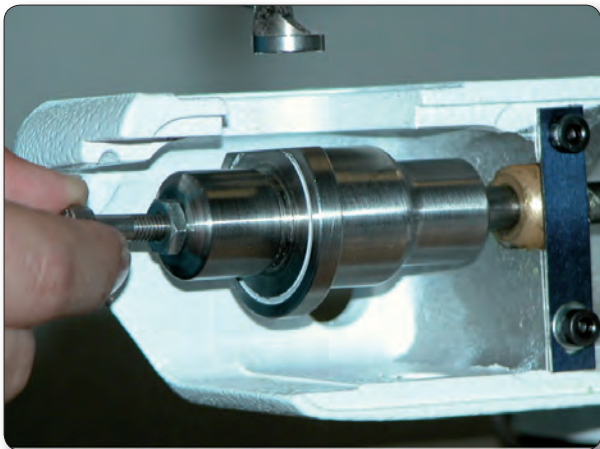

Figure 12.2
1. Install the cylinder tool with the flat side up. (Figure 12.2)